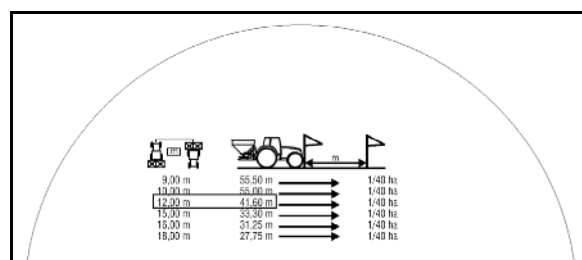

Fig. 70
4. On the field, measure the exact calibration distance. Mark the beginning and end points (Fig. 70).